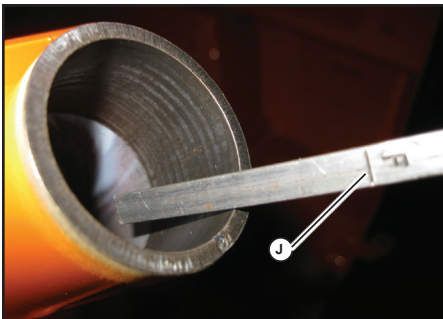

**Fig. 69 - Hydraulic Oil Dipstick and Fill Neck**
The machine has a dipstick (I, Fig. 69) located in the engine compartment. Check the fluid level with the lift arm lowered and the attachment on the ground.
- Remove hydraulic dipstick/oil fill cap (I, Fig. 69) and add hydraulic oil until the level reaches the FULL marking (J, Fig. 70) on the dipstick.